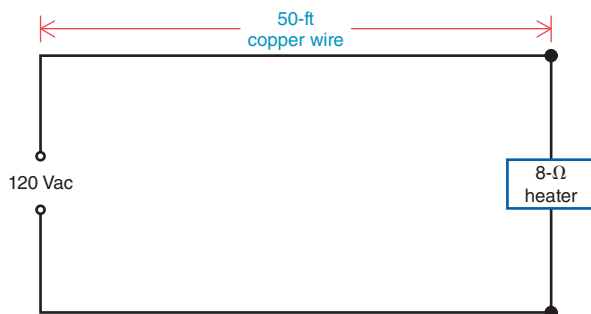

Figure 9-24
- 9.1 In Fig. 9-24, an $8\text{-}\Omega$ heater is connected to the 120-Vac power line by two 50-ft lengths of copper wire. If each 50-ft length of wire has a resistance of $0.08\ \Omega$, then calculate the following: